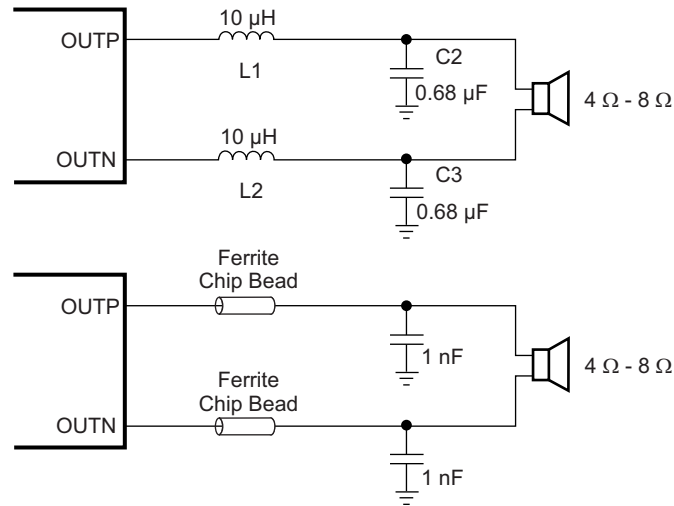

图 35. TPA31xxD2 Output Filters
- Output filter — The ferrite EMI filter (see 图 35) should be placed as close to the output terminals as possible for the best EMI performance. The LC filter should be placed close to the outputs. The capacitors used in both the ferrite and LC filters should be grounded.